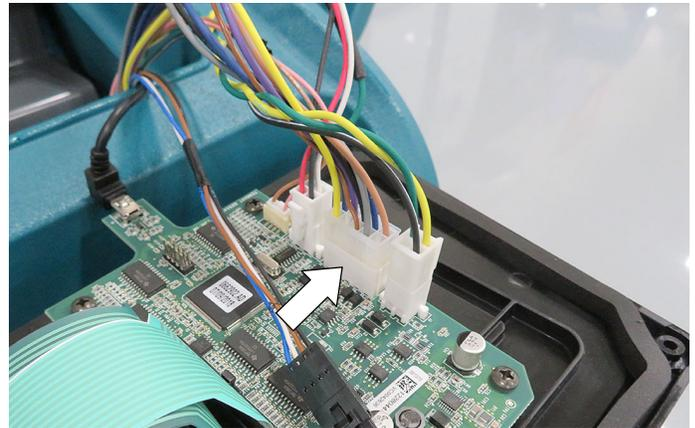

Fig. 14
- Disconnect the center wire harness connector from the panel (Figure 14).